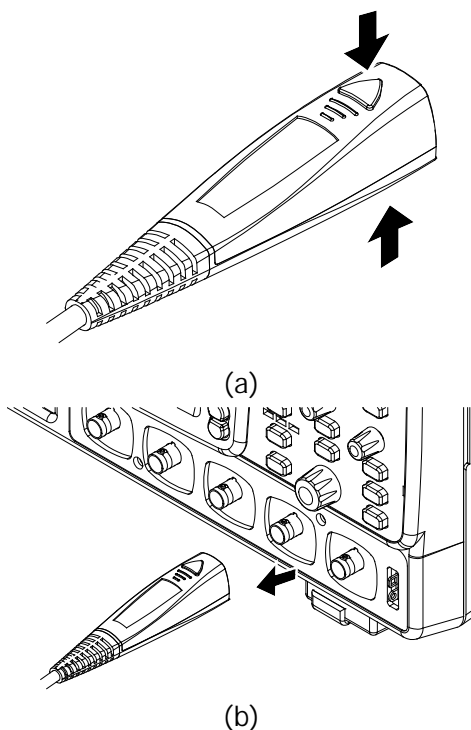

Figure 4 To Disconnect the Oscilloscope
- To disconnect the probe from the oscilloscope, push the small buttons on the top and bottom of the probe connector, and then pull the probe connector out from the BNC connector of the oscilloscope in the arrow direction as shown in the Figure 4 (b).